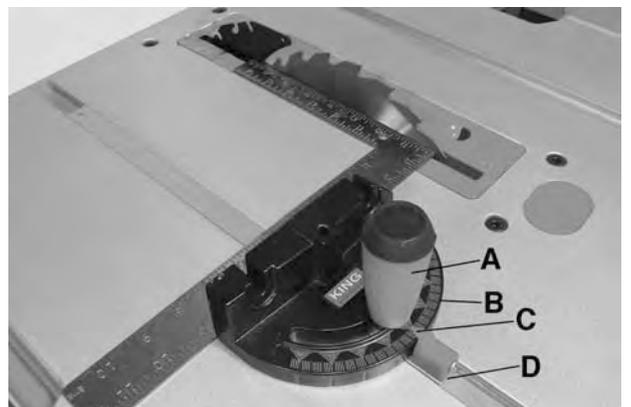

FIGURE 16
1. To adjust the miter gauge, loosen lock handle (A) Fig.16 and set the miter gauge body with scale (B) so the indicator (C) aligns to the desired cutting angle, then retighten lock handle.
2. For best results, it is recommended to check the miter gauge for squareness against the saw blade. Place a square against the blade, loosen lock handle (A) and place the miter gauge against the square. Once the miter gauge body is perfectly square with the blade, retighten lock handle (A). If the pointer (C) requires alignment, loosen 2 screws under the miter gauge bar (D), reposition the pointer and retighten screws.